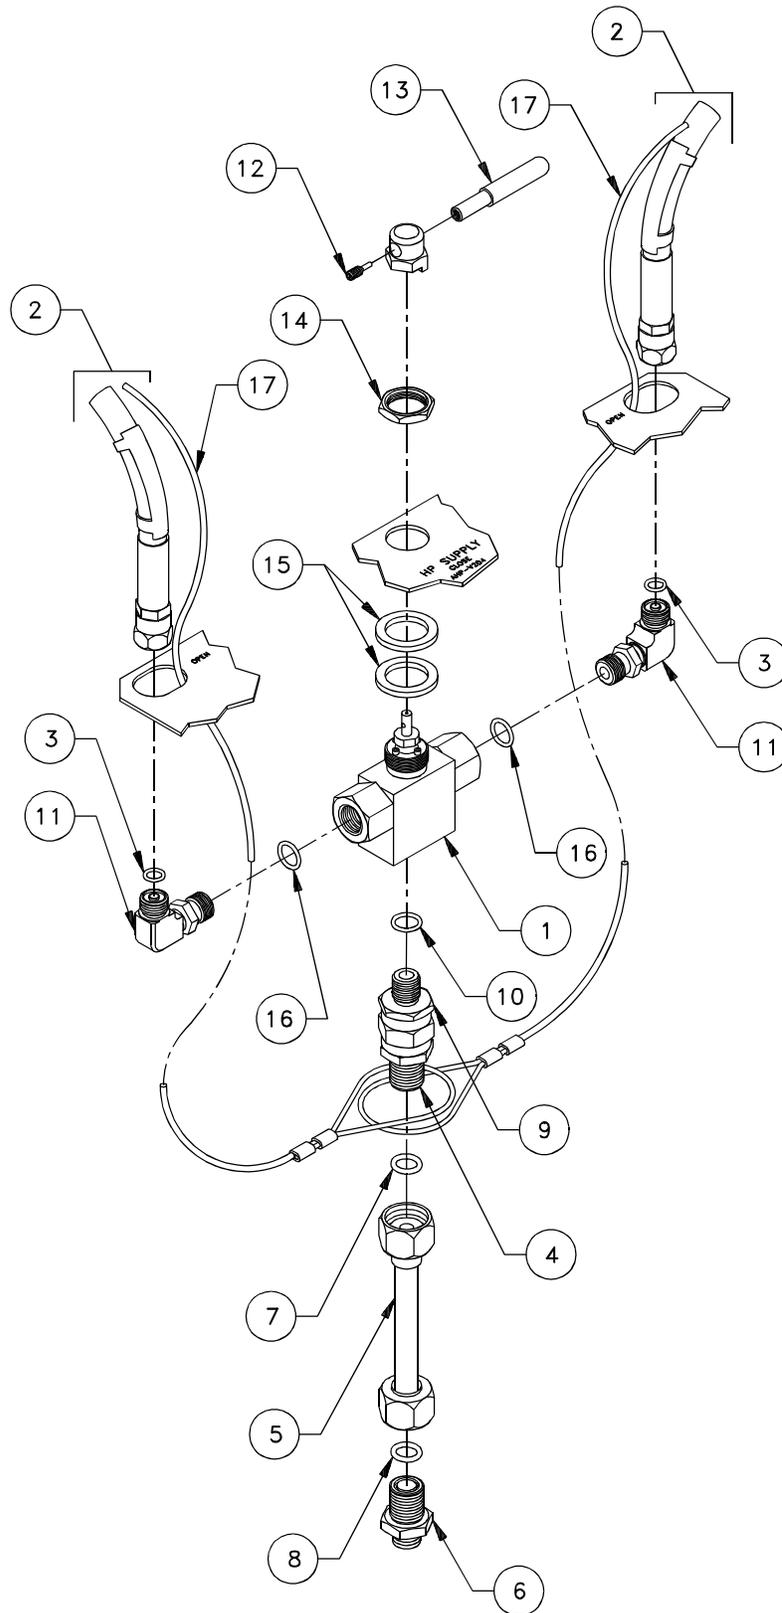

Figure 6-3. Three-Way Ball Valve (AHP-V204)
6.5.2.4 Three-Way Ball Valve (AHP-V204) Removal and Replacement (Figure 6-3).